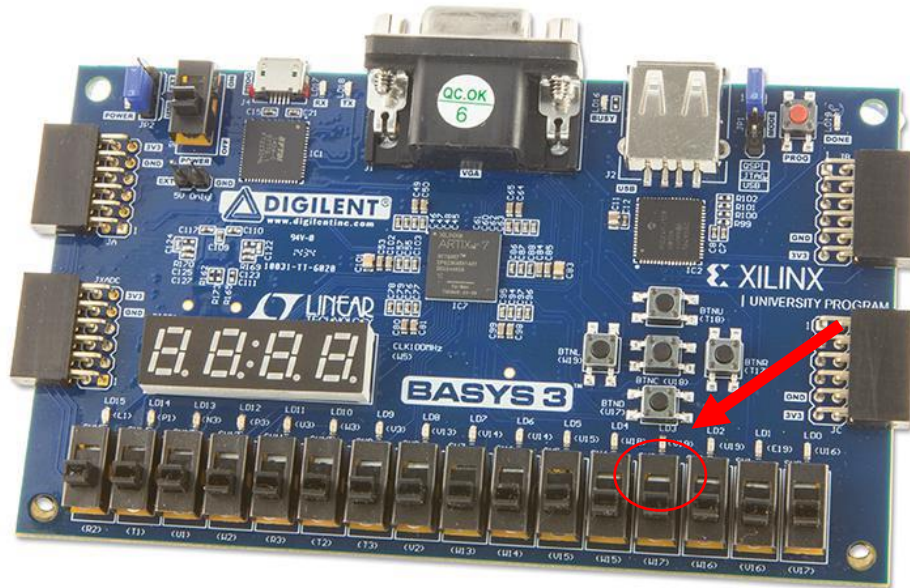

Figure 1: Reset button selected
5. Finally, I ran my code, programmed my board, and made sensor connections with jumpers and breadboard. I used a sponge ball in order not to damage my sensor and also the hoop. Once I threw the ball through the basketball hoop the sensor which is connected to the breadboard under the hoop detects the balls. I adjusted my sensor the way that it detects objects under 5cm, I have adjusted this value considering the diameter of my hoop, therefore, it won't see any objects passing near the hoop or see me. I also control, if my reset button works properly (Figure 1 and 5). It resets the scoreboard on the seven-segment display hence, players can start again for example after the time runs out and compete with each other. That's why the reset button is crucial.